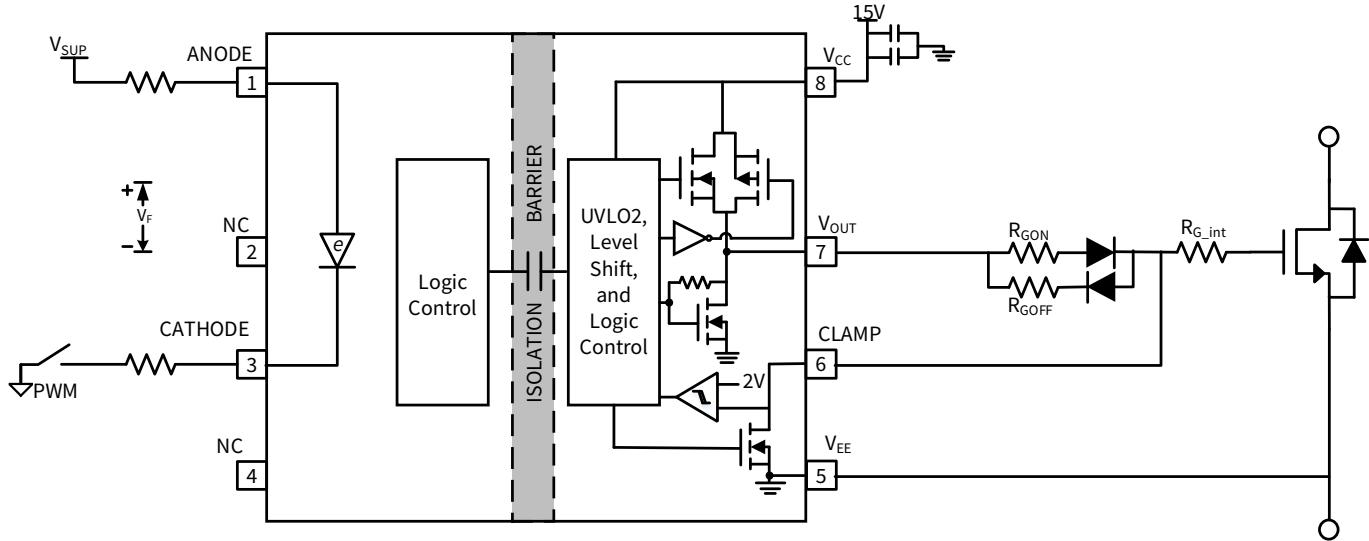
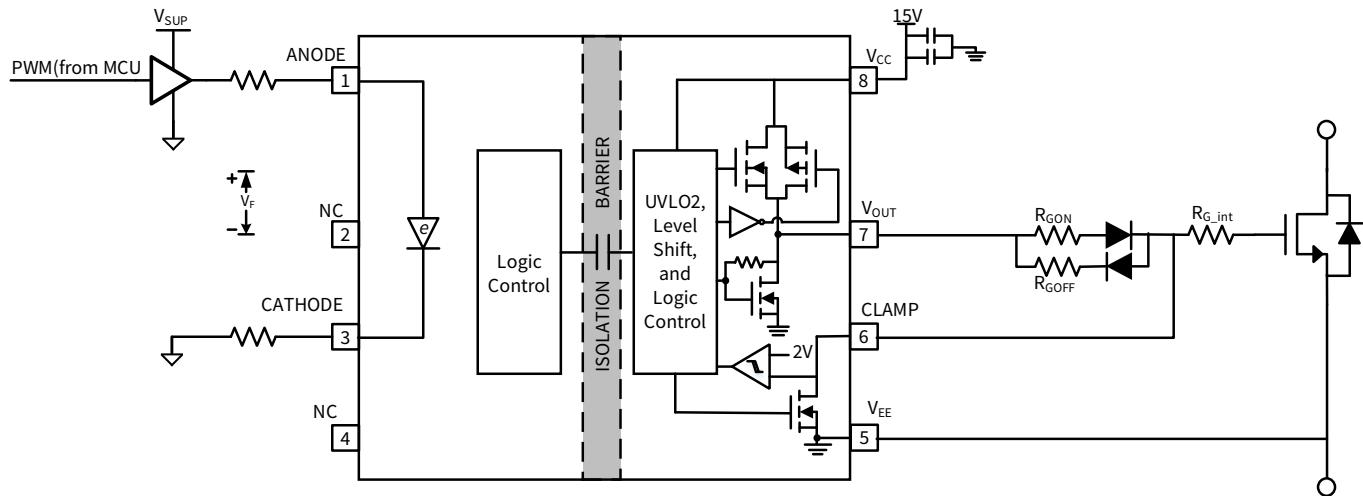
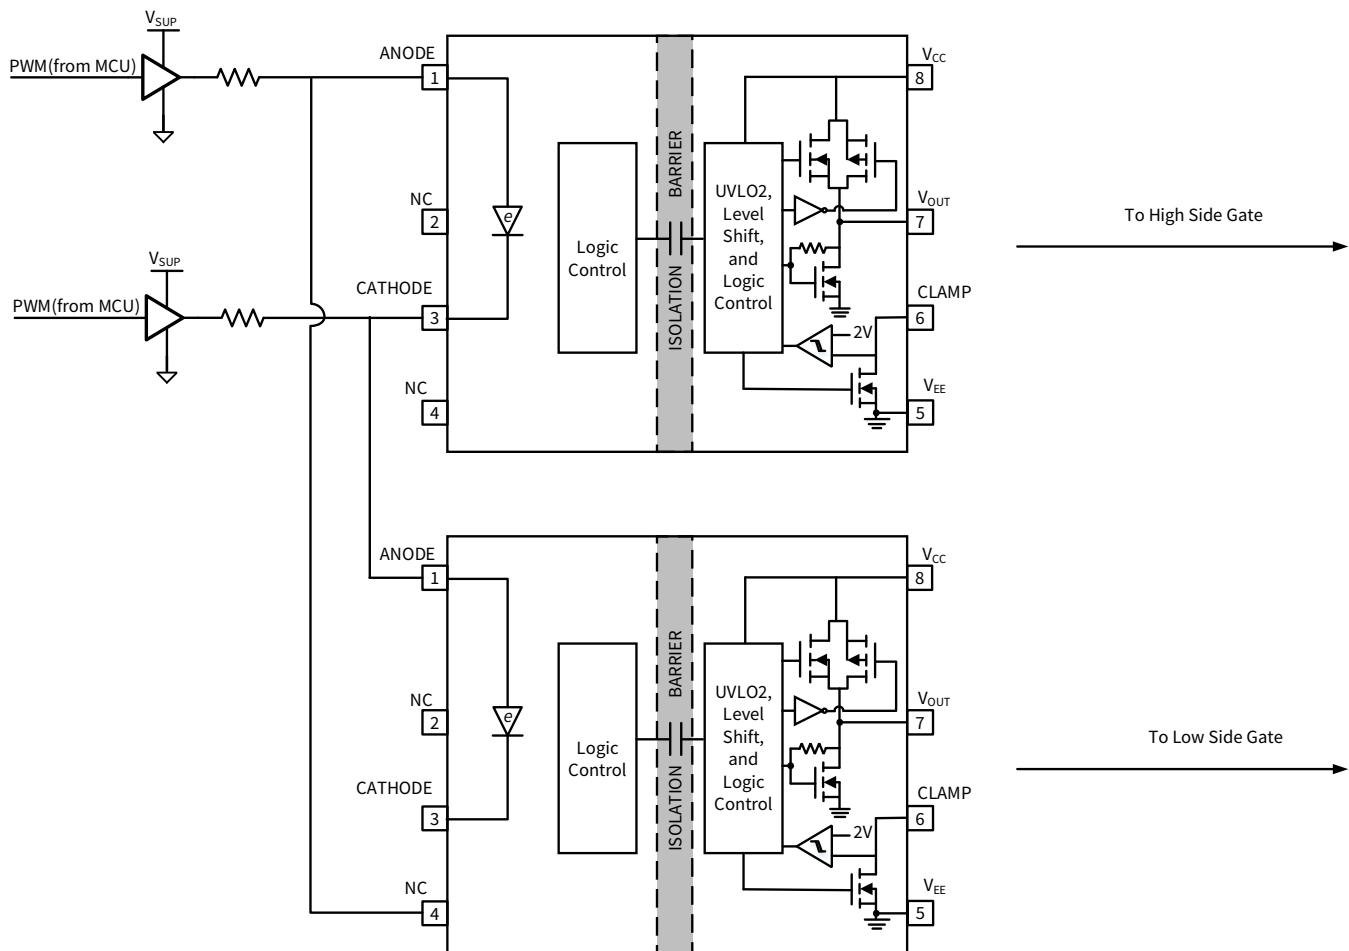

Figure 9.1 NSI6801M typical application circuit with NMOS driving input stage
Figure 9.2 NSI6801M typical application circuit with one buffer driving input stage
Figure 9.3 Interlock Protection using NSI6801M
NSI6801M requires 7mA to 16mA bias current that flows into the e-diode for normal operation. The PWM from MCU is not suitable to provide such current directly and external circuit is needed. In Figure 9.1, one NMOS is used with split input resistors. Another input drive method is using one buffer, as shown in Figure 9.2. The details to calculate input drive parameters are in Chapter 9.3.
For applications to drive power transistors in half bridge configuration, two NSI6801M can be used. Interlock protection is possible as shown in Figure 9.3. If the controller has some mistake, leading to negative dead time, the output PWM of NSI6801M is adjusted to avoid power transistor shoot through. The input side reverse breakdown voltage of NSI6801M is greater than 6.5V, which supports interlock protection of 3.3V or 5V PWM signal source.
The recommended forward current range for NSI6801 is 7mA to 16mA. The value of input resistor, buffer supply voltage and buffer internal resistance influence the forward current, as shown in Equation (1). In Figure 9.1, R_{IN1} is the on-resistance of the external NMOS. In Figure 9.2, R_{IN2} is the buffer output impedance in output “High” state. In Figure 9.3, R_{IN3} is the summary of buffer output impedance in “High” and “Low” state.